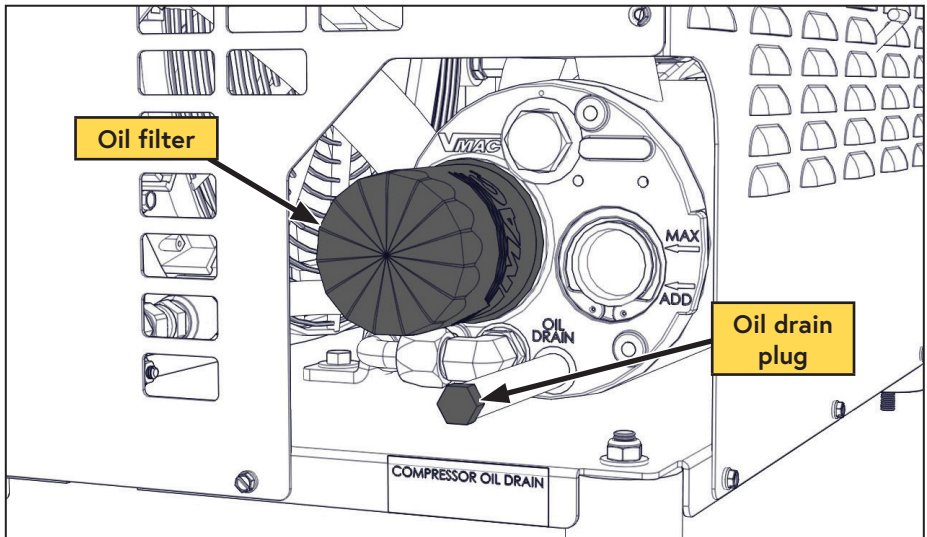

Figure 29 — Compressor oil filter
- Remove the oil drain plug and drain the oil into a container with a capacity of at least 6 L (1.6 USG) (Figure 29).
- Remove the oil filter (Figure 29).